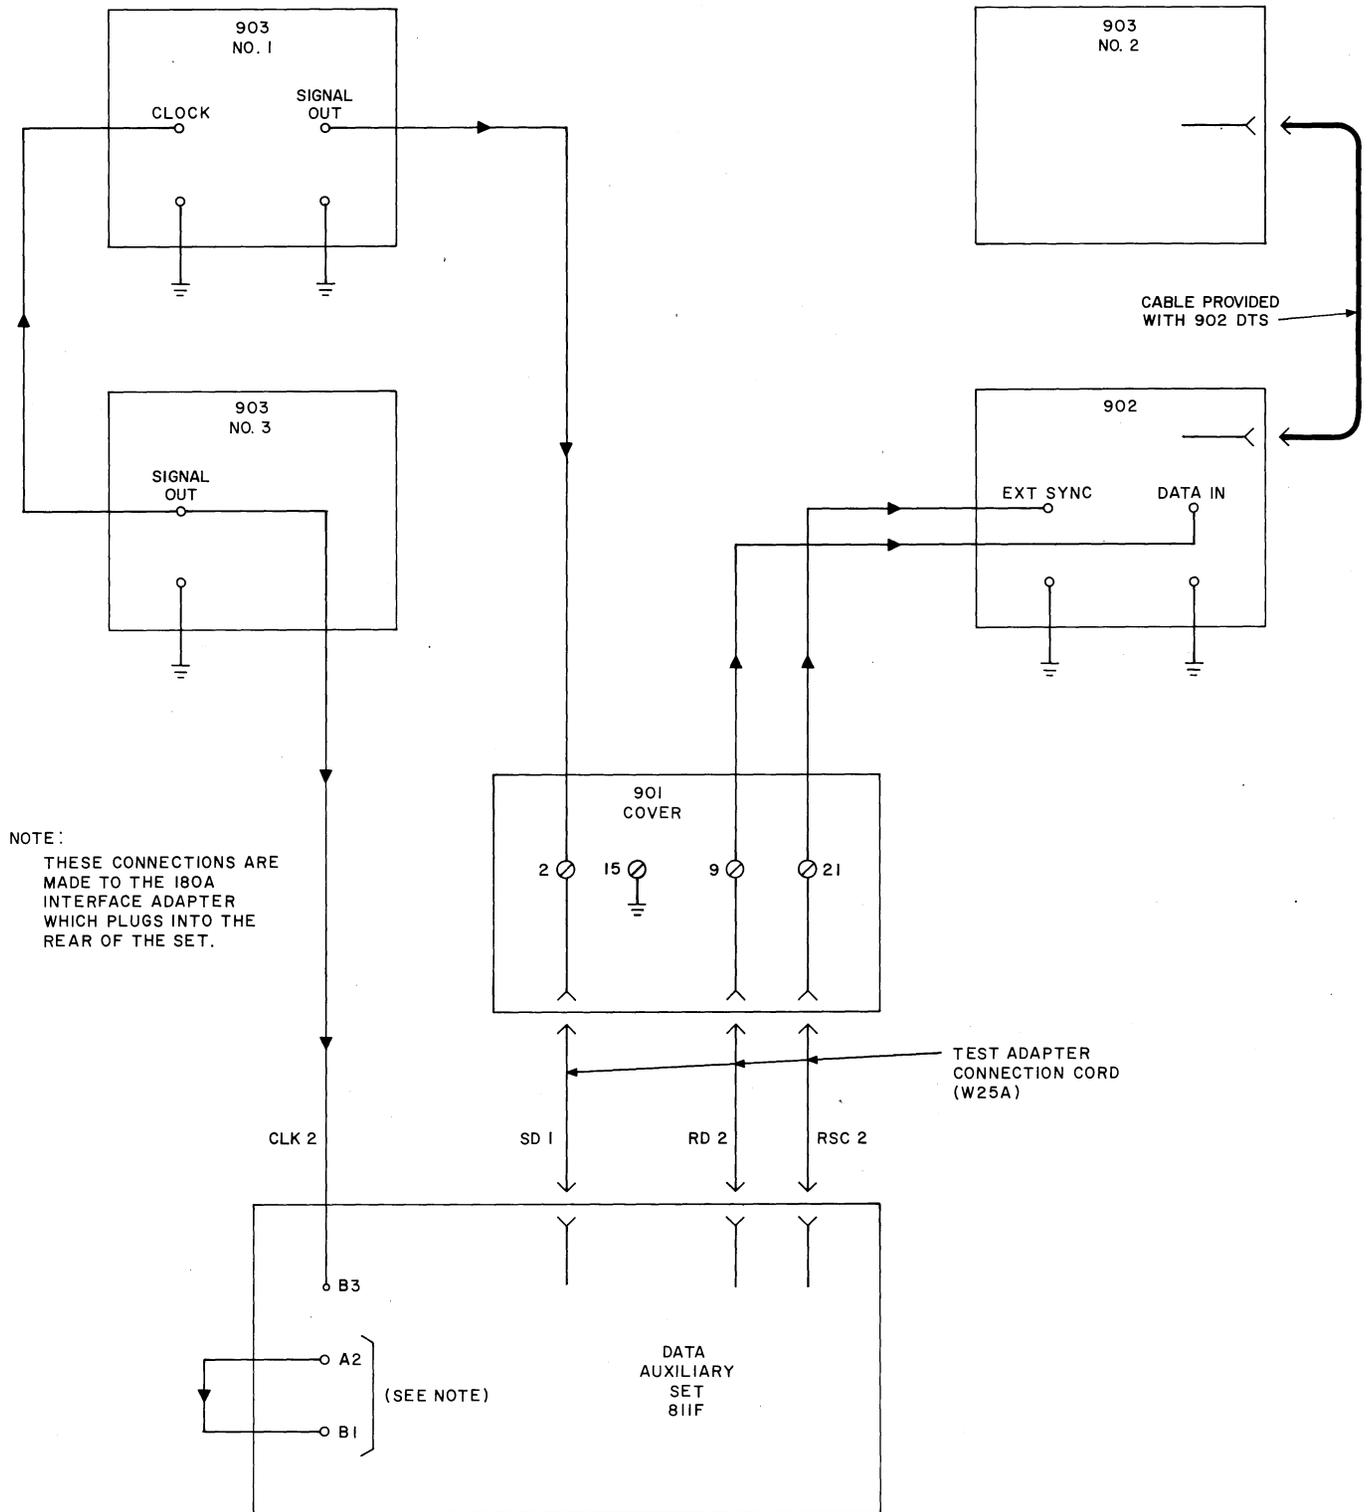

Fig. 3—Test Connections, Second Direction
- (k) Connect the circuit as shown in Fig. 3 and repeat (d) through (i).